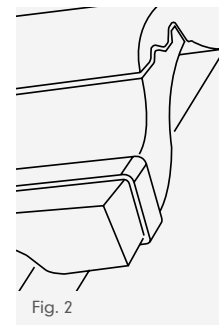

Fig. 2
- 4 Secure any small cut pieces of tile* to adjacent large tile by means of the special head clip (supplied in the fixing kit) and ensure they are fully supported at hip intersection. Ensure orientation of clip is such that end of throat is flush with cut tile (Figs. 2 and 3).